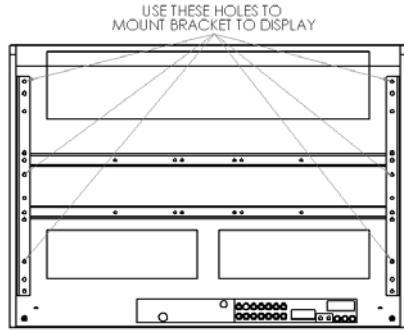
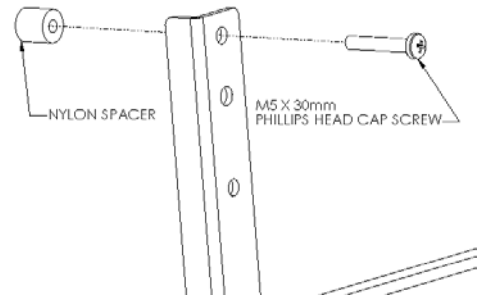

Figure 9
Figure 10
2. Place Nylon spacers on mounting holes, aligning hole pattern on *side* brackets with pattern on back of display (see Figure 9 & Figure 10).